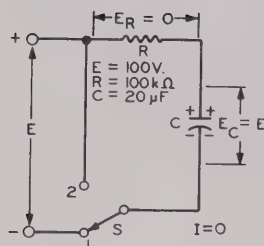

Figure 6
The simple RC circuit shown in Figure 6 consists of a resistor, R , a capacitor, C , and a switch, S , connected in series across voltage source, E . When the switch is closed to position 1, the circuit is completed and electrons flow from the source negative terminal through switch S to the lower plate of capacitor C , and from the upper capacitor plate through resistor R to the positive terminal of the voltage source.
Using Figure 6 for an example calculation of RC time constant, R is 100,000 ohms or 1×10^5 ohms, and C is 20 microfarads or 20×10^{-6} farads. The time constant of this circuit is:
12. At the instant the switch is closed, what is the value of circuit current and the voltage drop across C in Figure 6?
To illustrate the use of the chart of Figure 7 and curve 1 of Figure 3, consider an RC circuit like that of Figure 6 in which $R = 25,000$ ohms, $C = .02 \mu\text{F}$, and $E_A = 500$ volts. What is the approximate voltage across the capacitor at the end of the second time constant, and how many microseconds are required for the capacitor to charge to the source voltage?
In Figure 6, with the switch in position 1, the resistor, R , and capacitor, C , are connected in series across the voltage source, E , and the capacitor charges in the manner described. When the capacitor is fully charged, its voltage, E_C , is equal to the applied voltage, E . At this time, the resistor voltage, E_R , is equal to zero and the circuit current is zero.